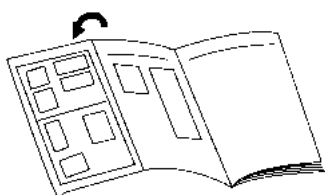

Fig. 6 Remote Controller
- 1 **Press the CLOCK ADJUST button (Fig. 6 ③④).**
- 2 **Use the TIMER SET (+ / -) buttons (Fig. 6 ③③) to adjust the clock to the current time.**